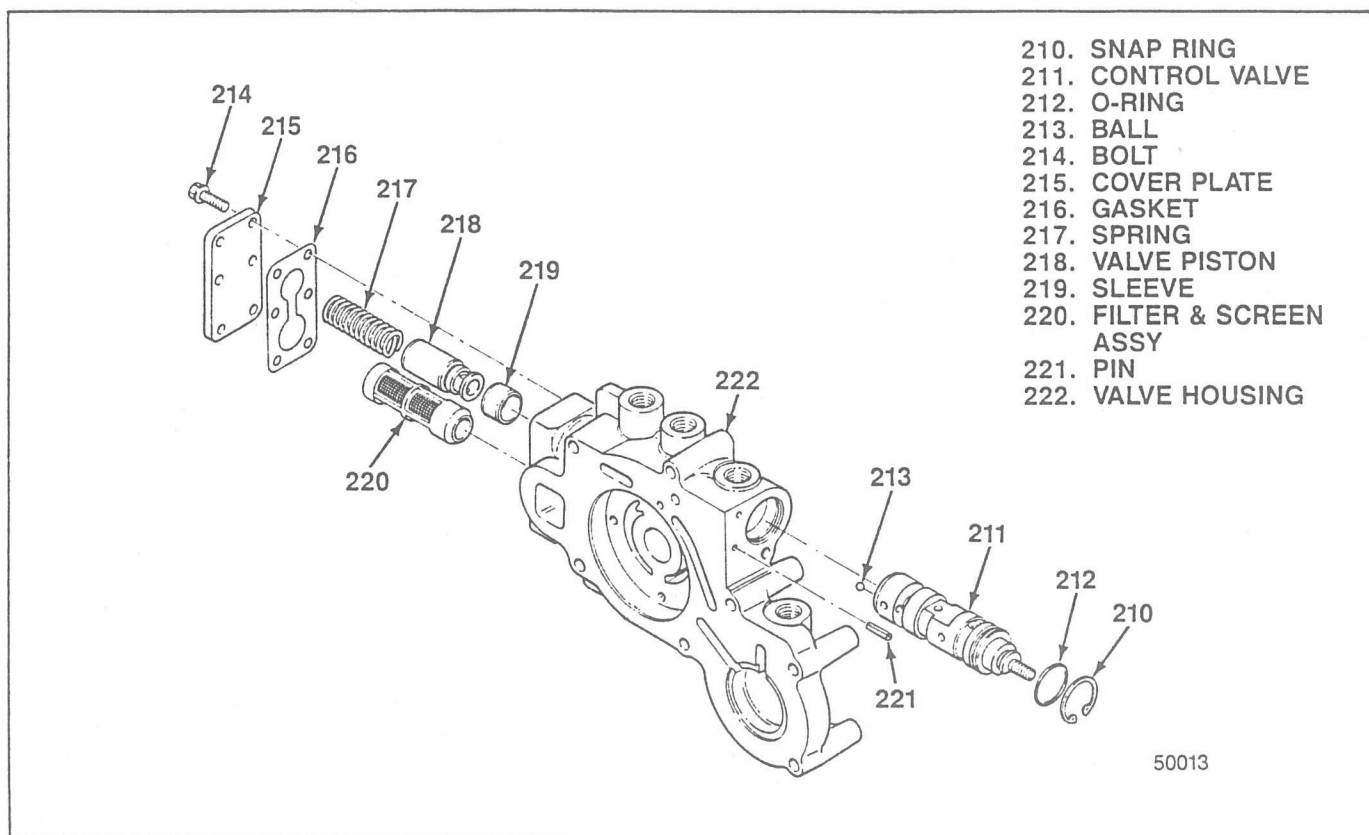

Figure 3-8. Control Valve, Piston and Filter
**3-15. REMOVAL OF CONTROL VALVE, PISTON AND FILTER.** After removing switch as described in paragraph 3-13, remove control valve, piston and filter as follows (see figure 3-8):
**CAUTION:** Control valve (211), valve piston (218), sleeve (219) and mating bores in valve housing (222) are highly finished. Use care not to scratch or otherwise damage these surfaces. Otherwise fluid leakage and shifting malfunction may result.
1. Remove snap ring (210) and pull control valve (211). Temporarily thread nut (204) back onto control valve to aid in valve removal if necessary.
2. Remove o-ring (212) from groove in control valve (211).
3. Do not remove ball (213) pressed into control valve (211).
4. Remove six bolts (214), cover plate (215) and gasket (216). If necessary to scrape gasket, defer this until after valve and pump assembly is completely disassembled.
5. Remove spring (217), valve piston (218), sleeve (219) and filter and screen assembly (220) from valve housing (222).
7. Remove pins (221) only if replacement is required.